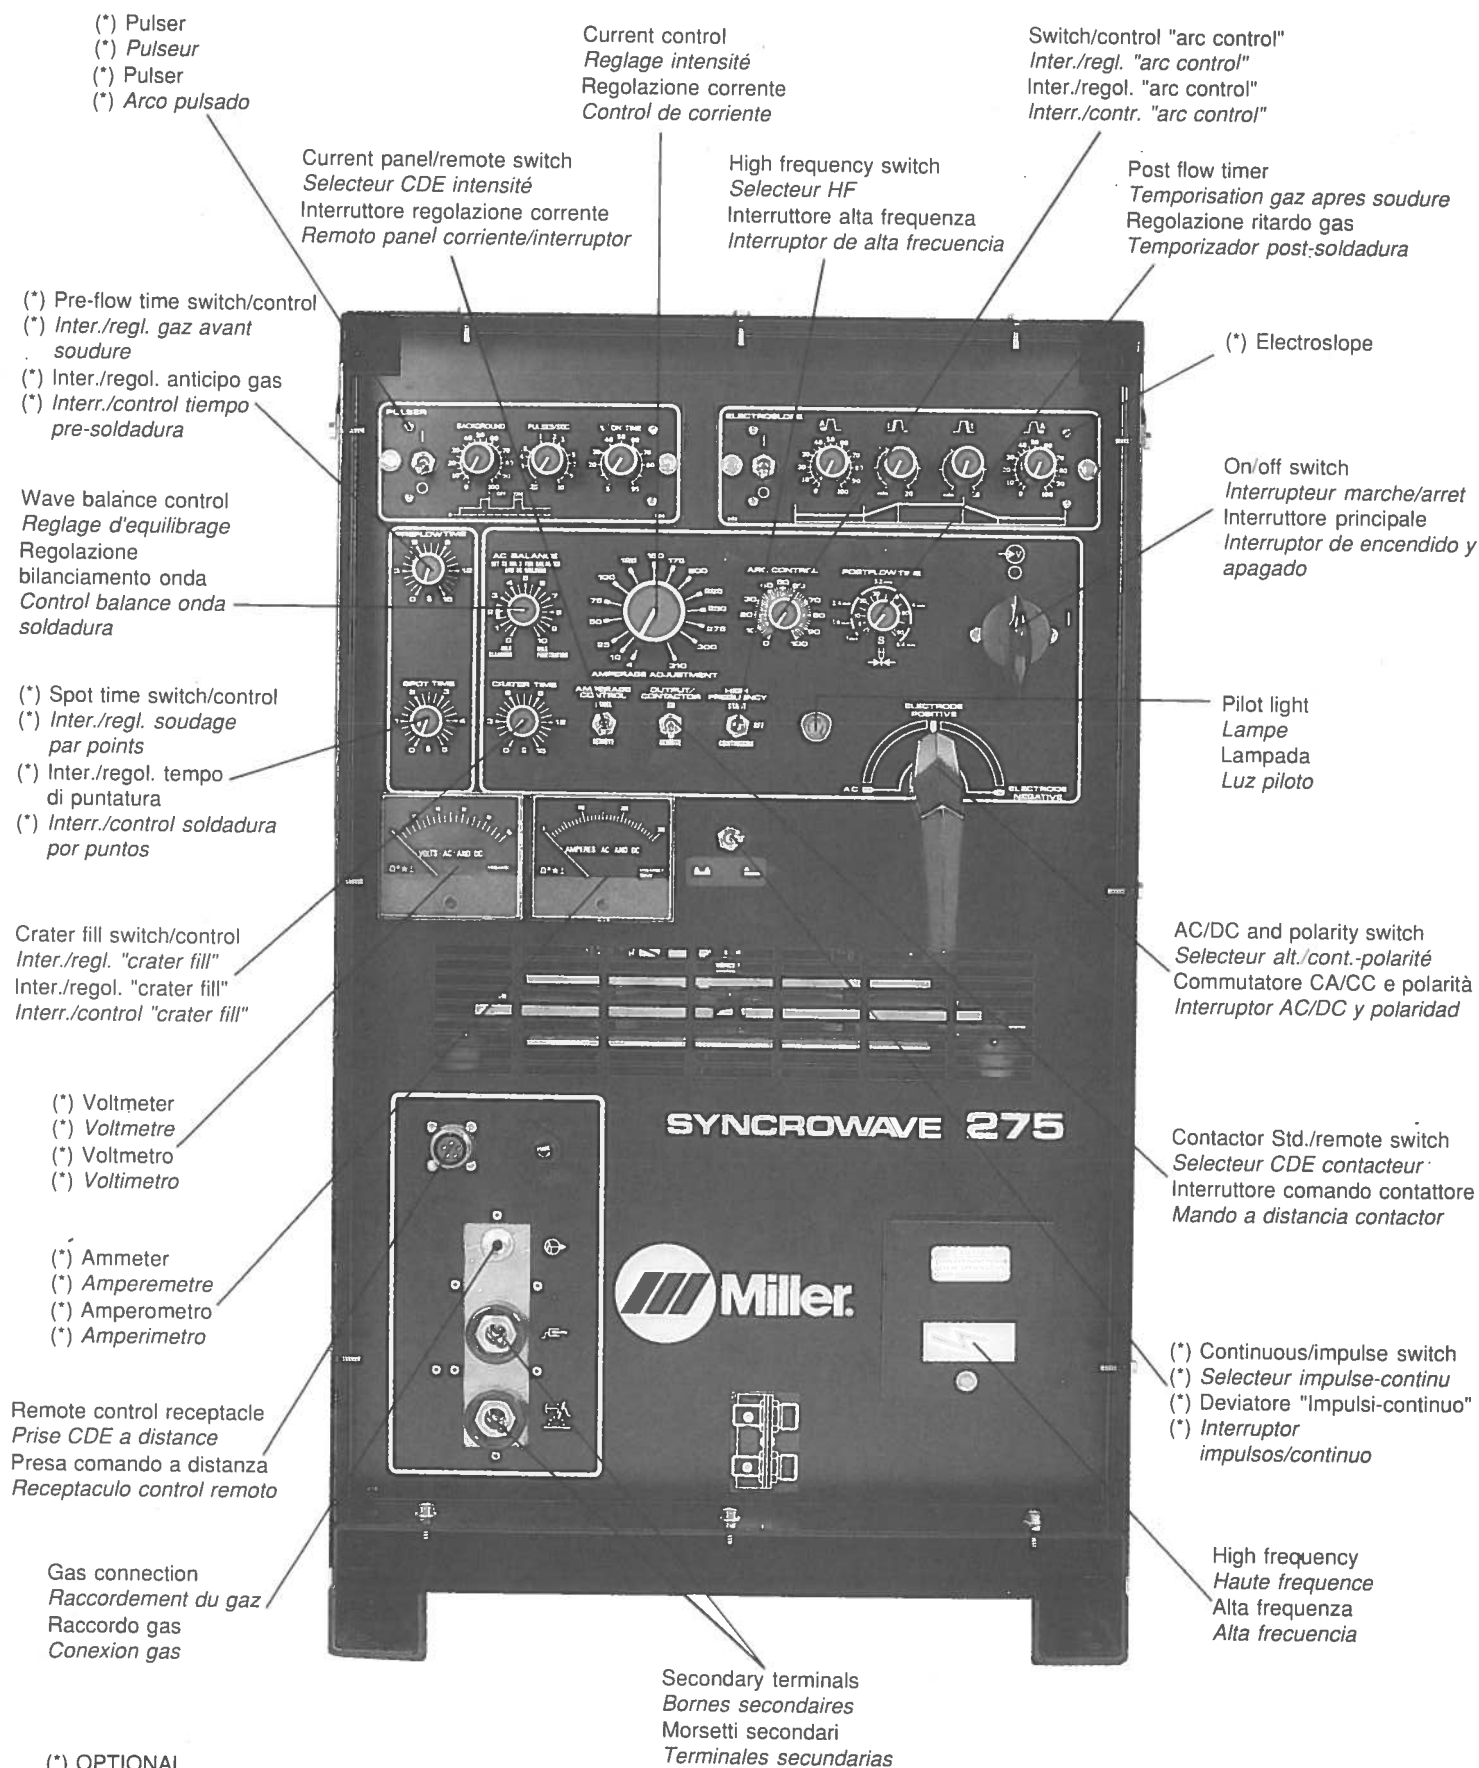

Fig. 1 Front panel view
E. GAS CONNECTION (Fig. 1)
F. REMOTE CONTACTOR AND CURRENT CONTROL RECEPTACLE (Fig. 1)
2. Power switch (Fig. 1)
3. Current control (Fig. 1)
4. Current switch (Fig. 1)
5. AC/DC and polarity switch (Fig. 1)
6. Contactor switch (Fig. 1)